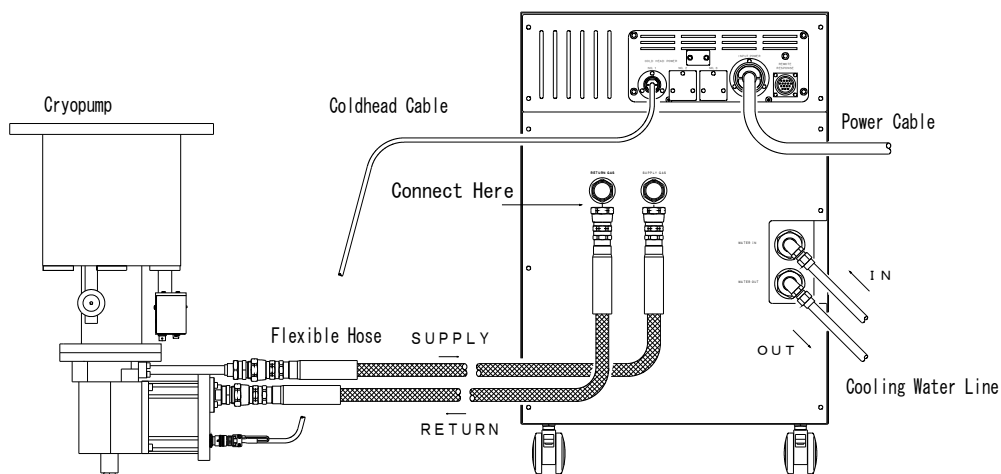

Figure 8-6 Connecting Flexible Hoses
11. Make sure that the flat rubber gasket of the self-sealing coupling is never disconnected nor twisted. Then connect the flexible hoses to the compressor unit. (See Figure 8-6).